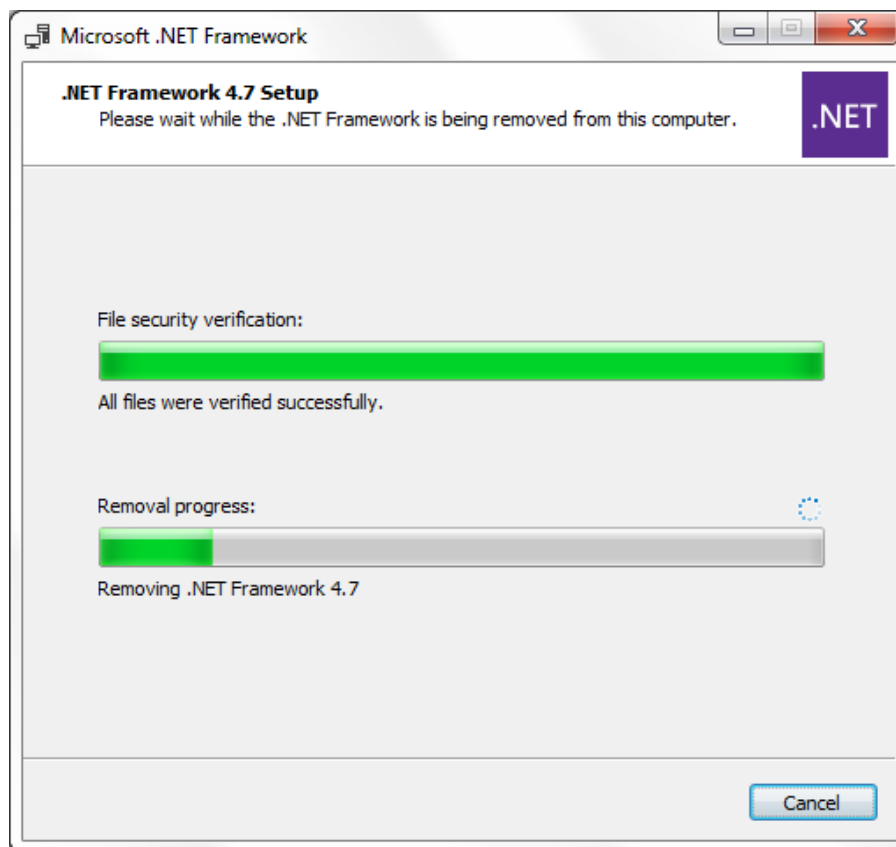

Figure III.1.11: Microsoft .NET 4.7 is uninstalled.
- Microsoft .NET 4.7 is uninstalled (see Figure III.1.11). It can take a while.